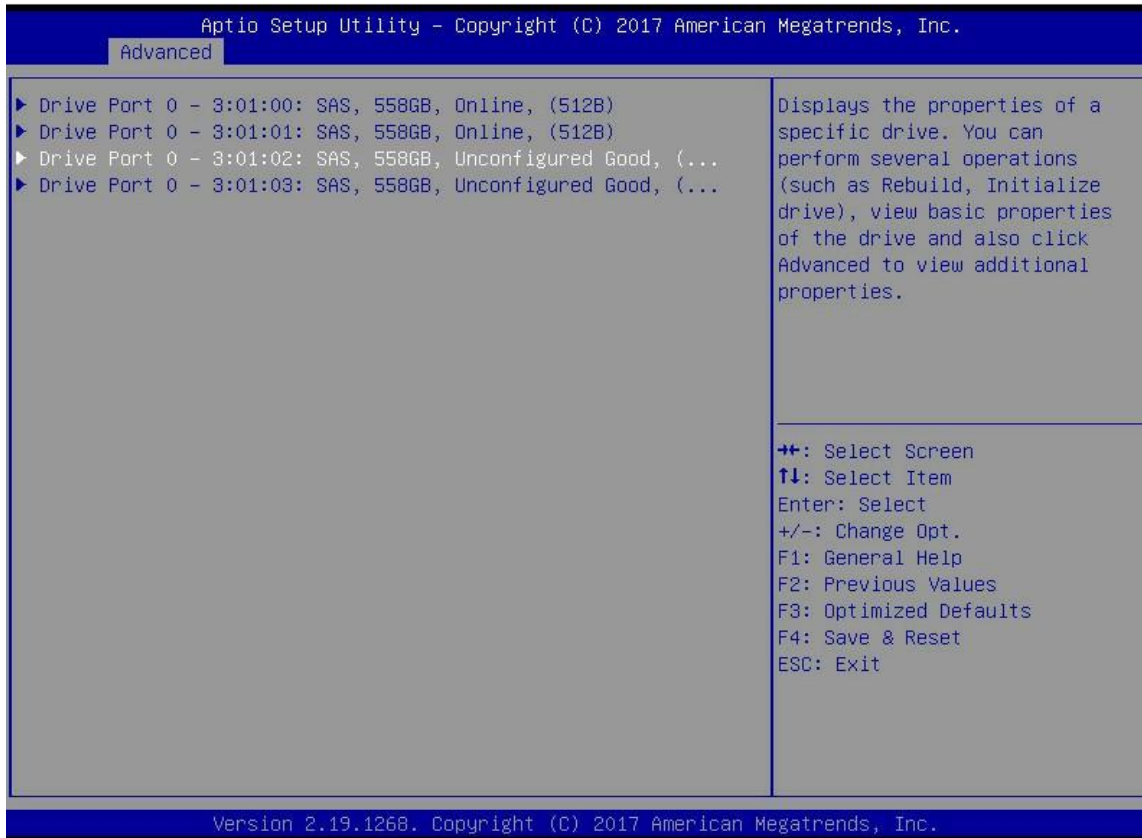

Figure 6-20
b) Enter the interface shown in Figure 6-20, select the disk to be configured as global hot spare, and press enter.